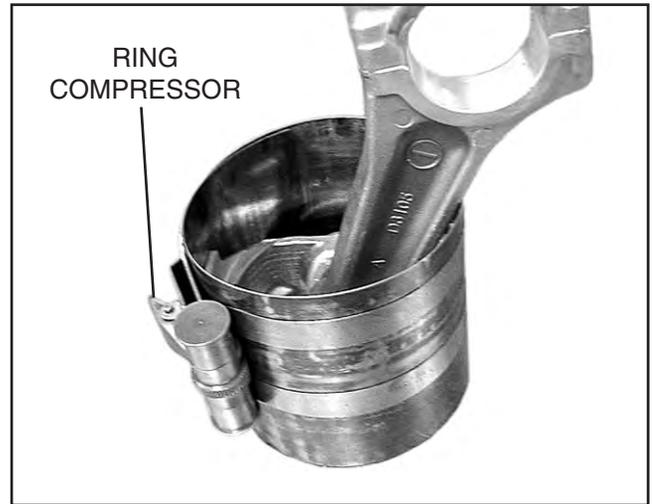

Figure 13-2. Compressing Rings
1. Oil piston rings, piston skirt, and compress rings with Ring Compressor, Figure 13-2.